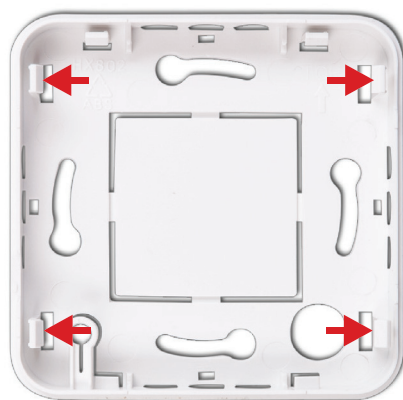

Figure 2: Bottom housing
2. Release the bottom housing by pressing the four latches in the corners (figure 2).